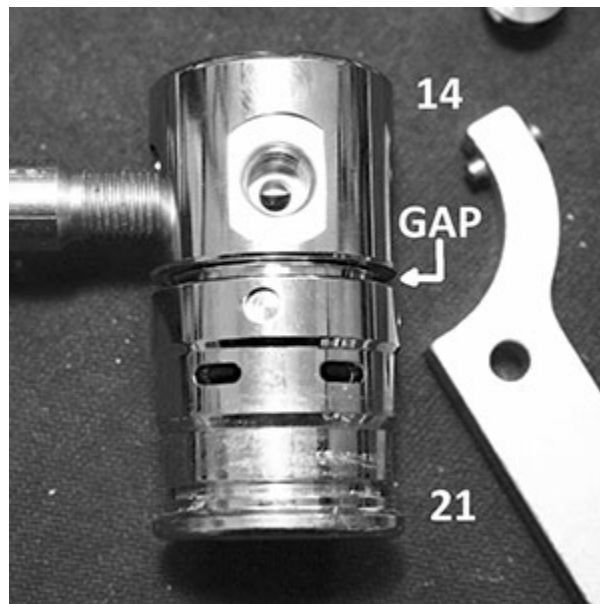

Fig. 12
7. Once it has been loosened, unscrew the two parts until a gap is seen. Be aware that there is significant spring pressure between the two parts - Fig. 12.